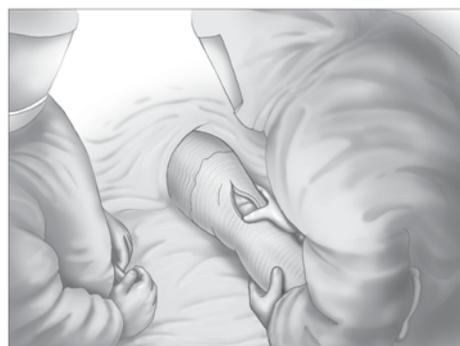

Figure 60
Step 1: Perform a trial reduction and assess stability of the joint both in flexion and extension (Figure 60). If the flexion and extension gaps are loose during trial reduction with a 15mm tibial insert trial, PTS can be combined with the 9, 11, 13 or 15mm tibial insert trial for 17mm to 23mm gaps (Table 2). Select the PTS trial that corresponds with the Optetrak Logic tibial insert trial size being used. For example, if a Size 3 tibial insert trial is being used, an 8mm Optetrak PTS Trial, Size 3 must be selected.